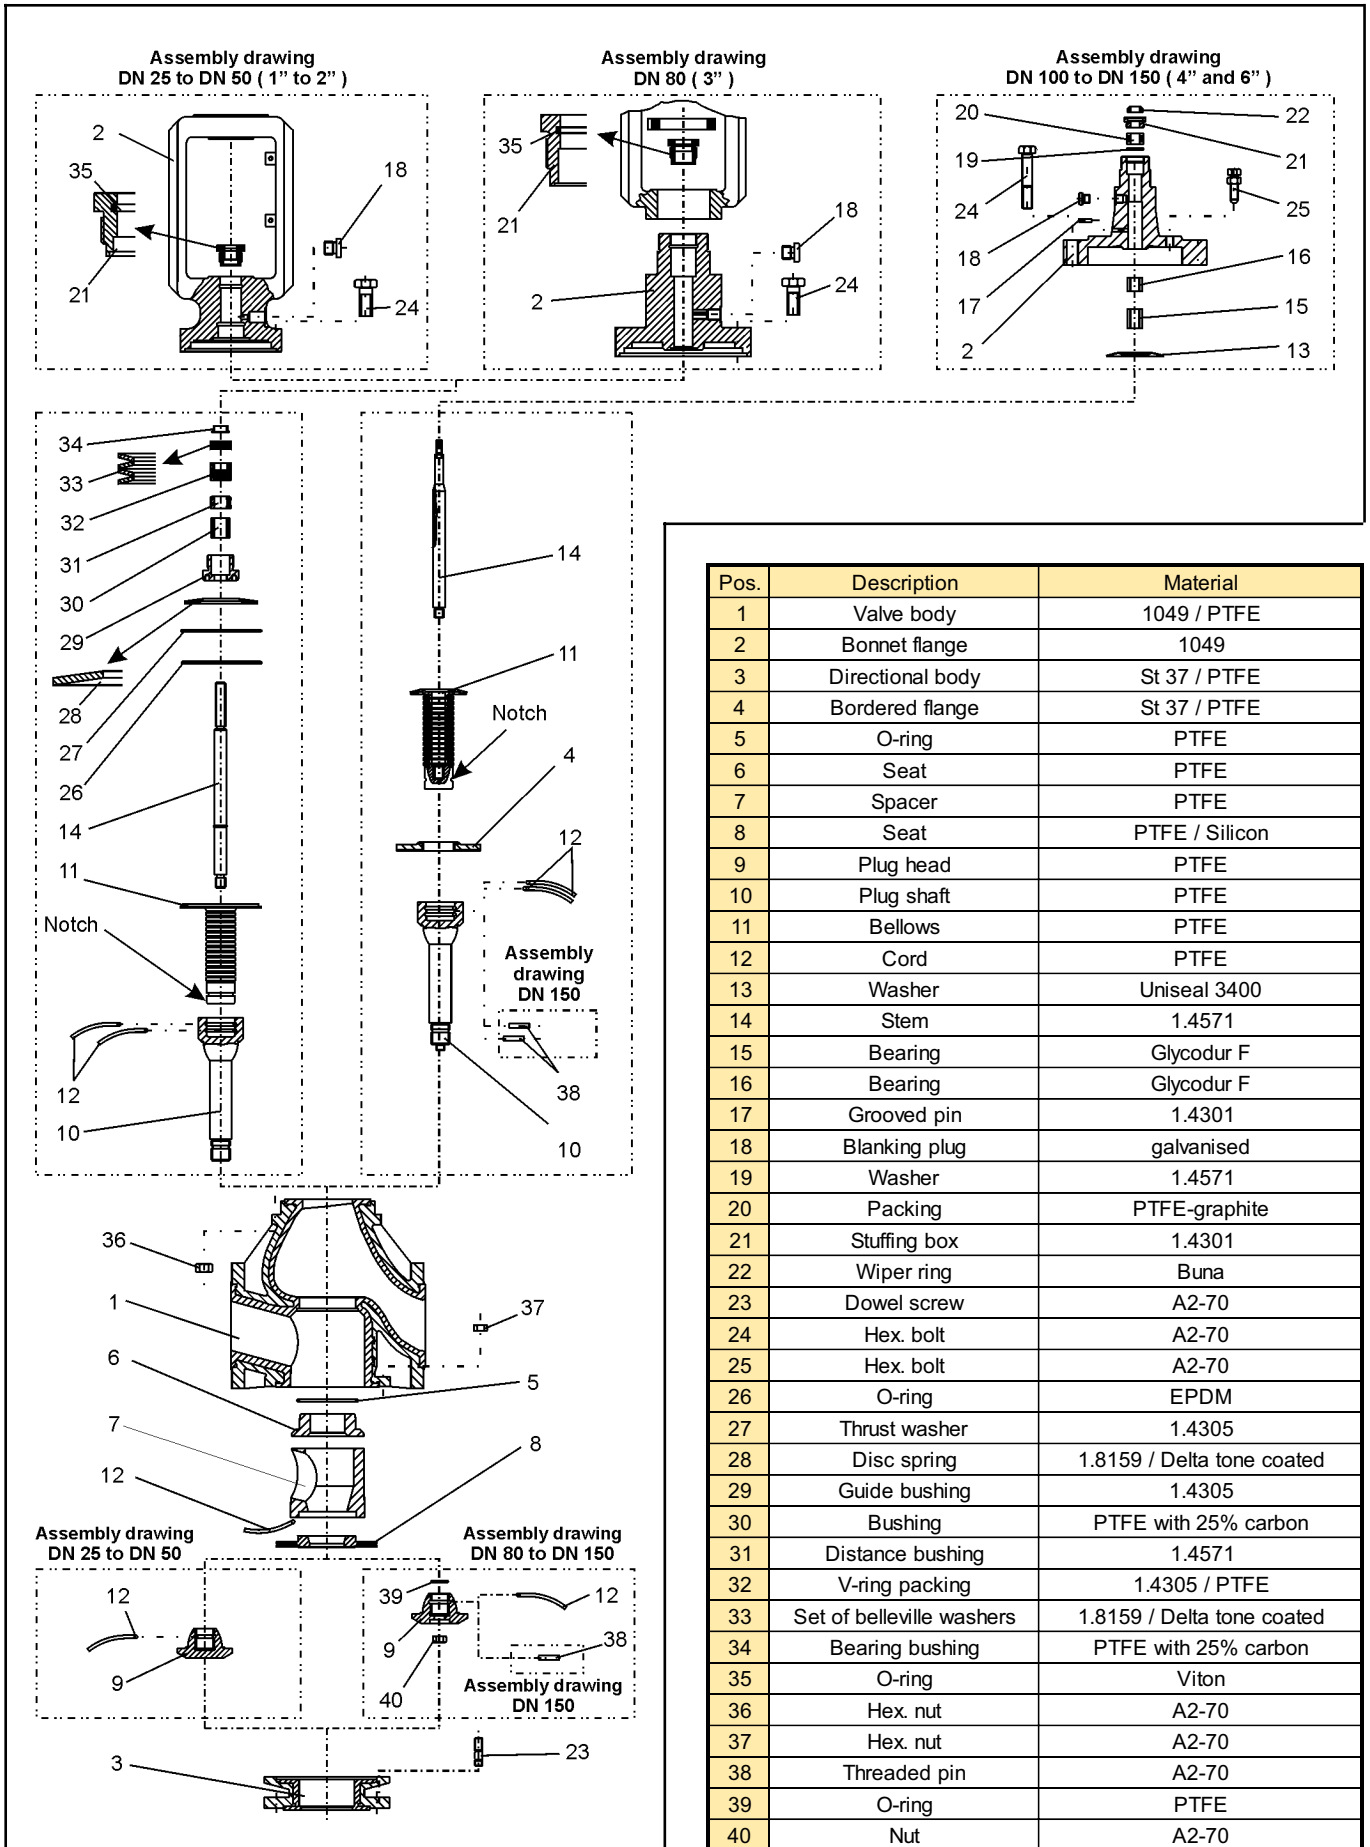

Fig. 3 - Explosion drawing of the 3-way control valve, series 1d
Note: The position and arrangement of the individual parts shown in the explosion drawing (Fig. 3) must be observed when assembling the valve.
Place the spring washer set (33) in the designated bore. Refer to the exploded drawing for (Fig. 3) layout and arrangement.